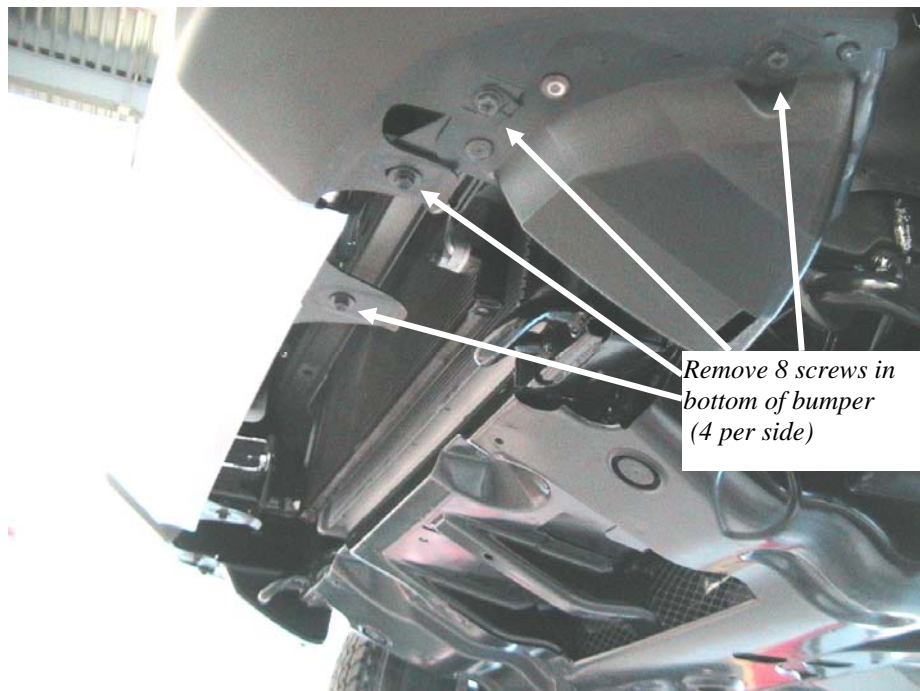

Figure 3 Lower bumper mounting screws
2. Remove the eight screws along the bottom of the bumper. **Figure 3**